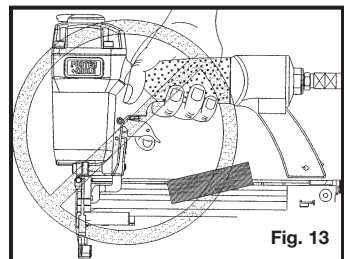

Fig. 13
20. Do not load fasteners with trigger or safety depressed, to prevent unintentional firing of a fastener. Fig. 13